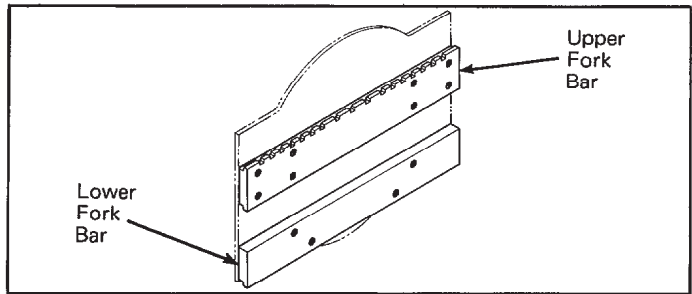

Figure 5. Fork Bar Installation
1. Locate the fork bars on the faceplate as shown in Figure 5.